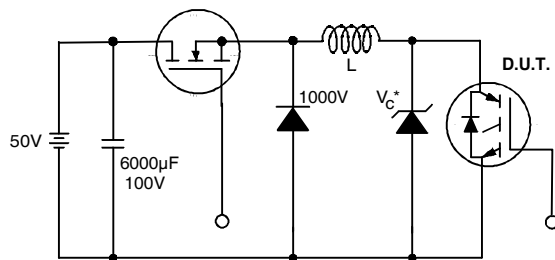

Figure 19. Clamped Inductive Load Test Circuit
- ② $V_{CC}=80\%(V_{CES})$, $V_{GE}=20V$, $L=10\mu H$, $R_G=50\Omega$ (figure 19)
- ③ Pulse width $\leq 80\mu s$; duty factor $\leq 0.1\%$.
- ④ Pulse width 5.0 μs , single shot.